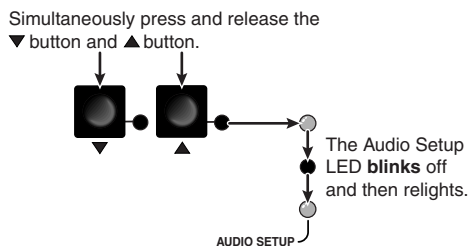

Figure 3-37 — Reset the selected input level
3. Press and release the ▼ and ▲ buttons simultaneously (figure 3-37).